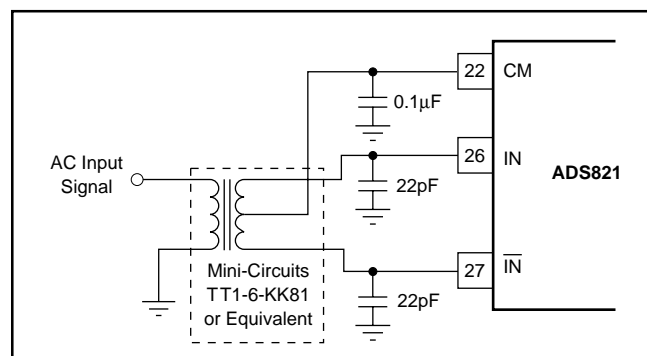

FIGURE 5. AC-Coupled, Single-Ended to Differential Drive Circuit Using a Transformer.
The ADS821 has a differential input with a common-mode of +2.25V. For AC-coupled applications, the simplest way to create this differential input is to drive the primary winding of a transformer with a single-ended input. A differential output is created on the secondary if the center tap is tied to the common-mode (CM) voltage of +2.25V, as per Figure 5. This transformer-coupled input arrangement provides good high-frequency AC performance. It is important to select a transformer that gives low distortion and does not exhibit core saturation at full-scale voltage levels. Since the transformer does not appreciably load the ladder, there is no need to buffer the CM output in this instance. In general, it is advisable to keep the current draw from the CM output pin below 0.5μA to avoid nonlinearity in the internal reference ladder. A FET input operational amplifier such as the OPA130 can provide a buffered reference for driving external circuitry. The analog IN and IN inputs should be bypassed with 22pF capacitors to minimize track-and-hold glitches and to improve high-input frequency performance.